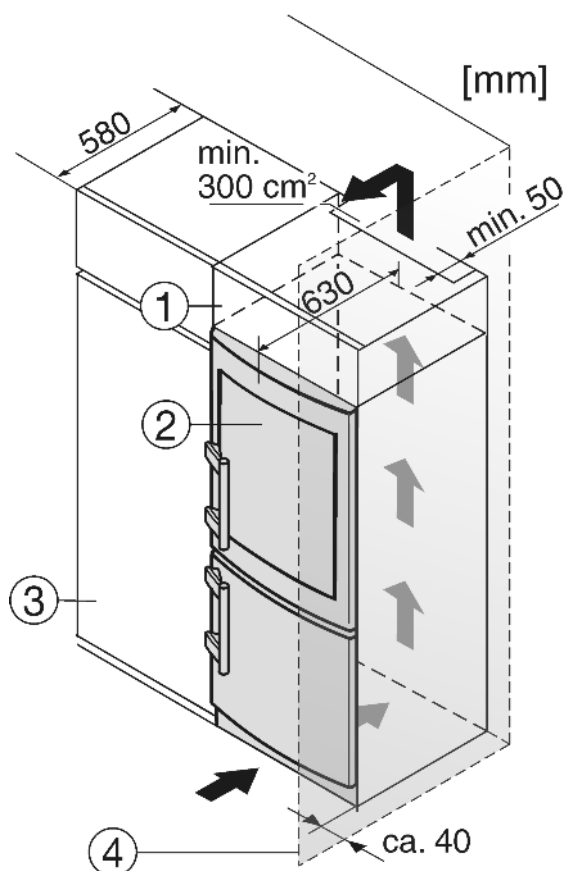

Fig. 21
- (1) Stack cabinet                      (3) Kitchen cabinet
(2) Appliance                        (4) Wall
The appliance can be built into kitchen units. A top cupboard Fig. 21 (2) can be added above the appliance in order to bring the appliance Fig. 21 (1) up to the height of the fitted kitchen units.
When retrofitting with kitchen cabinets (max. depth 580 mm) the appliance can be installed directly next to the cabinet Fig. 21 (3). The appliance door projects 34 mm from the front of the kitchen cabinet at the side and 50 mm at the centre of the appliance. This is so that it can be opened and closed easily.
If the appliance is installed with the hinges next to a wall Fig. 21 (4), the distance between appliance and wall has to be at least 40 mm. This corresponds to the projection of the handle when the door is open.